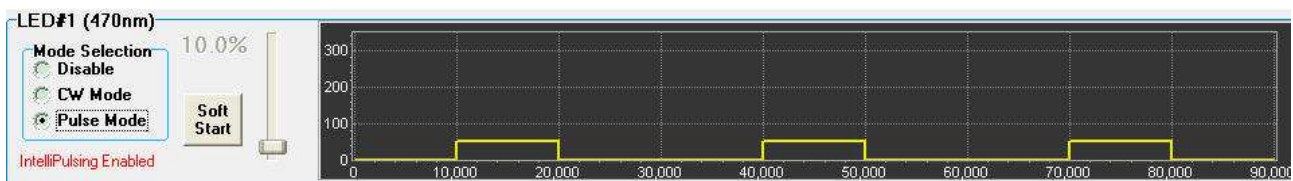

Figure 4.16 Pulse Mode, External trigger with **IntelliPulsing**.
Put the mouse cursor on any one of these blue square points and the mouse cursor will change to a hand shape. Drag a blue square to change the pulse parameters. A label will display the current pulse section information, as shown as Figure 4.16.
- 4) ☐ **IntelliPulsing** : Checking this box enables **IntelliPulsing** rules. If **IntelliPulsing** is enabled for the output, a red text reading “**IntelliPulsing Enabled**” will show under the mode selection box. See Figure 4.16 below.